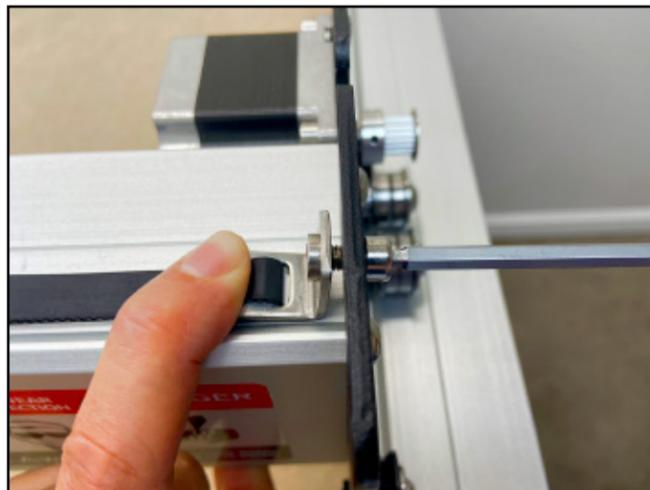

Figure 5-11
- Use the 4mm hex key and one (1) M5×10mm socket head cap screw to attach the belt clip to the Y2-carriage. Insert the screw from the **OUTSIDE** and tighten. Do not over tighten as this could bend the X-motor pulley. See **Figure 5-11**.